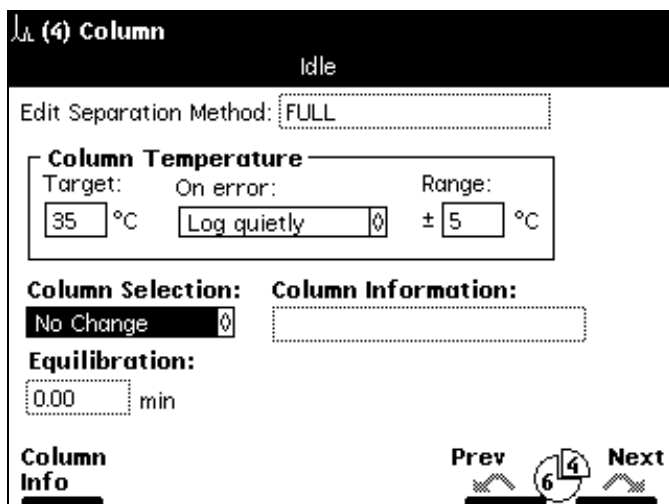
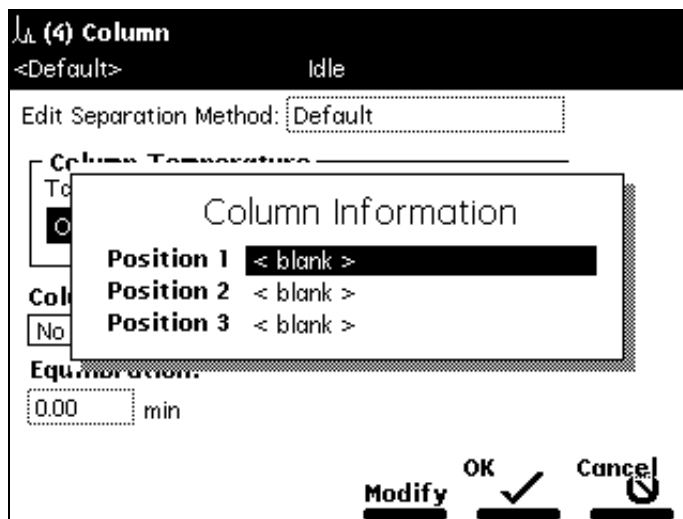

Figure 5-13 Column Screen
Figure 5-14 Column Information Dialog Box
- Press the **Next** or **Prev** screen keys (as appropriate) to display the Column screen (Figure 5-13).
1. Press the **Column Info** screen key in the Column screen (Figure 5-13). The Column Information dialog box appears (Figure 5-14).